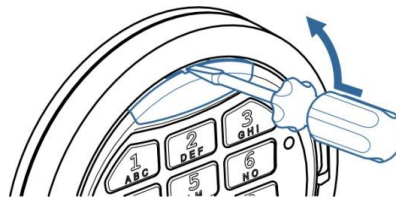

Fig. 5.2
- Take out the plastic cover for emergency power (5), see Fig. 5.2.